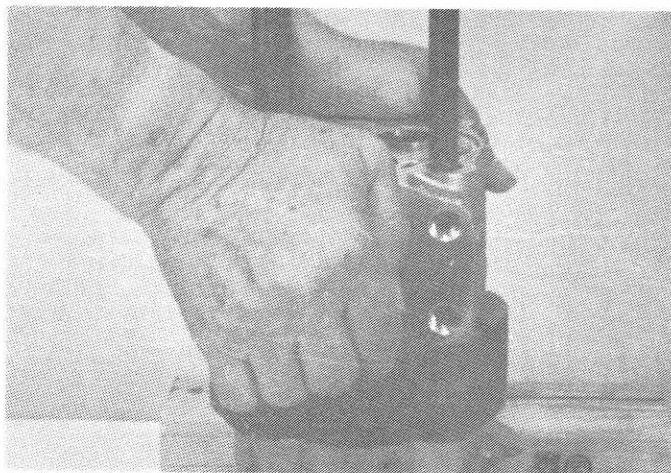

FIG. 30
40. After the coupling has been installed, check to make sure that the o-rings and back-up strip have not slipped out of their grooves. With the bearing plate contacting the dowels, use hand pressure to push it down until the o-ring is firmly against the gear plate. (Fig. 30)